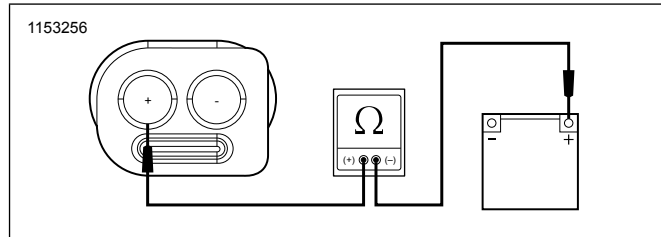

Figure 2.
2. See Figure 2. Using TEST CONNECTOR KIT (PART NUMBER: HD-41404), test resistance between [77B] terminal (+) and battery.